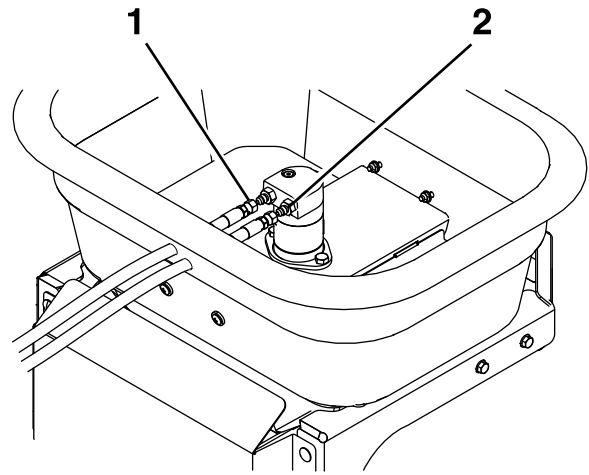

Figure 9
9. Attach two 1/4 x 60 inch hoses to the spinner motor as shown in Figure 9: